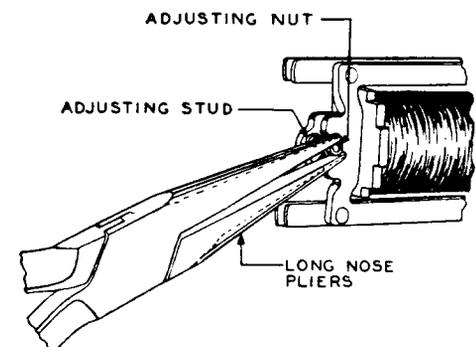

Fig. 107—Method of Tightening Adjusting Nut on Stud
(1) To tighten loose nuts back off the nut from the stud until its slotted portion is free of the stud and then force the slotted parts closer together with long-nose pliers as shown in Fig. 107.